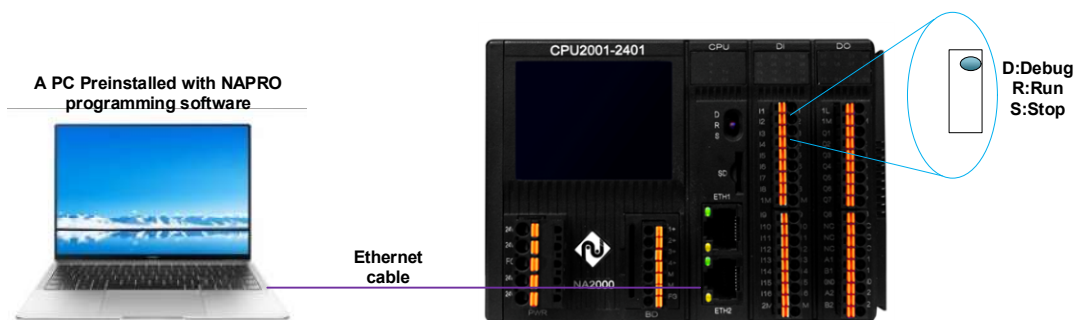

Figure 8-4-1 Connect the programming cable
Connecting the CPU module to the personal computer (PC) through a common Ethernet network cable to establish a transfer channel of data, as shown in Figure 8-4-1 CPU comes with dual Ethernet port, either of the two can be connected to the PC.